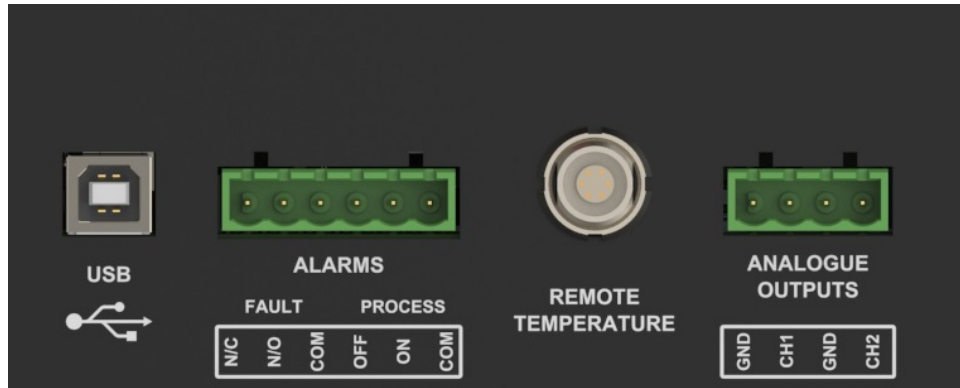

Figure 5 *USB Port Connection*
The two alarm output ports are connected to the instrument via a single 6-way, push-fit connector block as shown in *Figure 5*. Each output comprises a 3-wire set of potential free, change-over relay contacts.
1. Align the red dot on the body of the temperature probe connector with the red dot on the socket labelled **REMOTE TEMPERATURE** (see *Figure 5*).
3. To remove the connector, slide the connector's body collar (1) back along its axis, away from the instrument, to release the lock. Gently pull the connector body out of the socket. **NOTE: Do not attempt to pull the connector out with the cable – make sure that the collar is released first.**
1. Check the orientation of the connector and gently push it into the communications socket (see *Figures 5 and 6*).